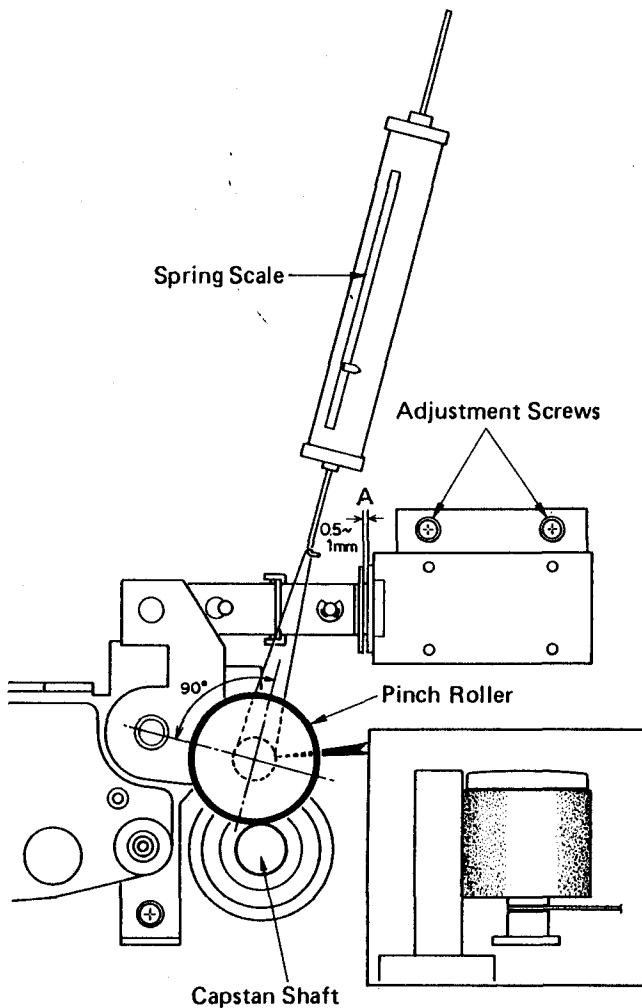

FIG. 12. PINCH ROLLER PRESSURE ADJUSTMENT
3. Attach a spring scale to the pinch roller as shown in Fig. 12.
5. If necessary, loosen the adjustment screws shown in Fig. 12 and move the solenoid mounting plate until pressure and tolerance "A" are both within specifications.